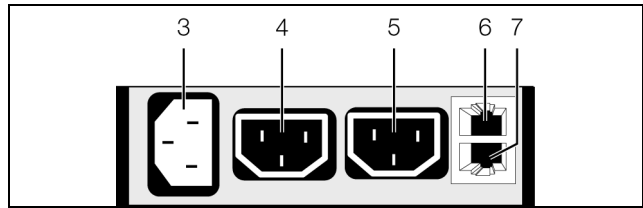

Fig. 9: Rear of the Power Unit
The CAN bus connection supplies the Power Unit with the necessary operating voltage. The Power Unit input must also be connected to the mains power to supply power to the external consumers (fig. 9, item 3).
- 4 AC output 1 C13, 100–230 V, 50/60 Hz, max. 10 A in total with item 5
- 5 AC output 2 C13, 100–230 V, 50/60 Hz, max. 10 A in total with item 4
- Connect an external consumer, e.g. a fan, to AC output 1 or AC output 2 using a suitable cable (fig. 9, items 4, 5).
- Insert the cable into the Power Unit AC input and the mains supply (fig. 9, item 3).
- Use a CAN bus connection cable to connect the Power Unit to the CMC III Processing Unit or the neighbouring component on the CAN bus (fig. 9, item 6).
- If necessary, connect another component (e.g. another sensor type) to the second, free CAN bus interface of the Power Unit (fig. 9, item 7).